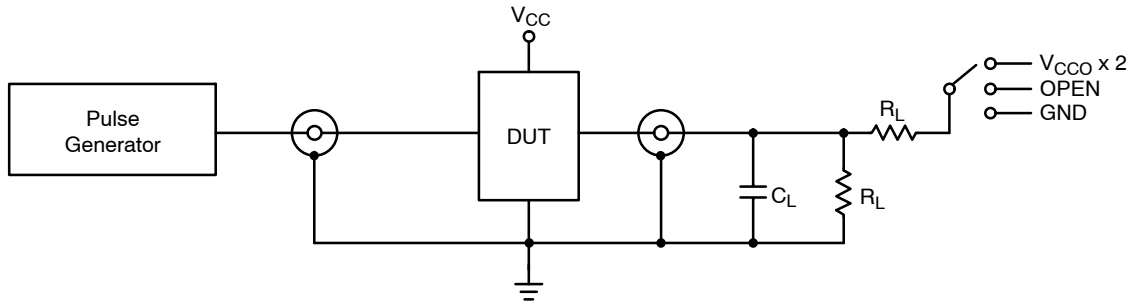

Figure 2. AC (Propagation Delay) Test Circuit
1. Propagation delays defined per Figure 2.